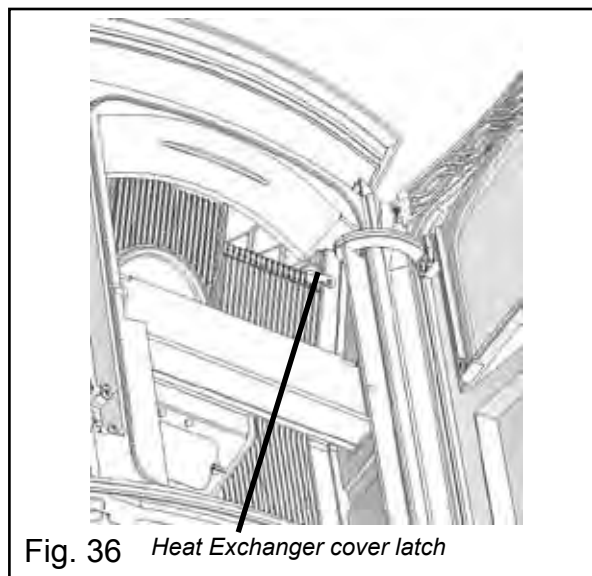

Fig. 36 Heat Exchanger cover latch
1. Remove the two heat exchanger covers. See Fig. 35. These covers are made of cast iron and are held into place with a swing latch in the upper right and left corners. See Fig 36. Swing the latch upward far enough to release the top edge of the heat exchanger cover. Tilt the cover forward approximately 2" and lift it upward about 1" to release the bottom edge. The cover can now be taken completely out through the upper door opening. Repeat the process with the second heat exchanger cover.